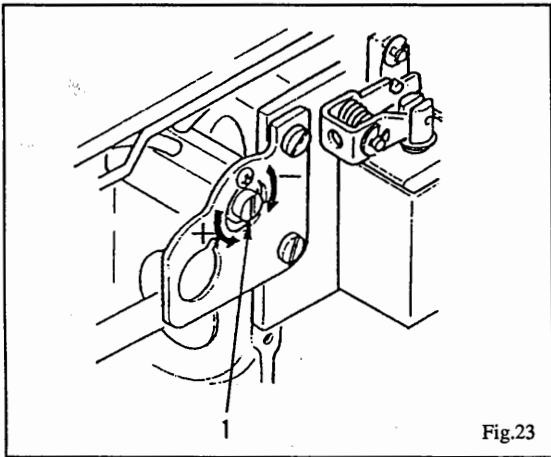

Fig.23
To regulate the amount of oil flow to sewing hook, tip machine back on its hinges, loosen nut (1) and turn oil flow regulating screw (2) as shown in Fig.23.